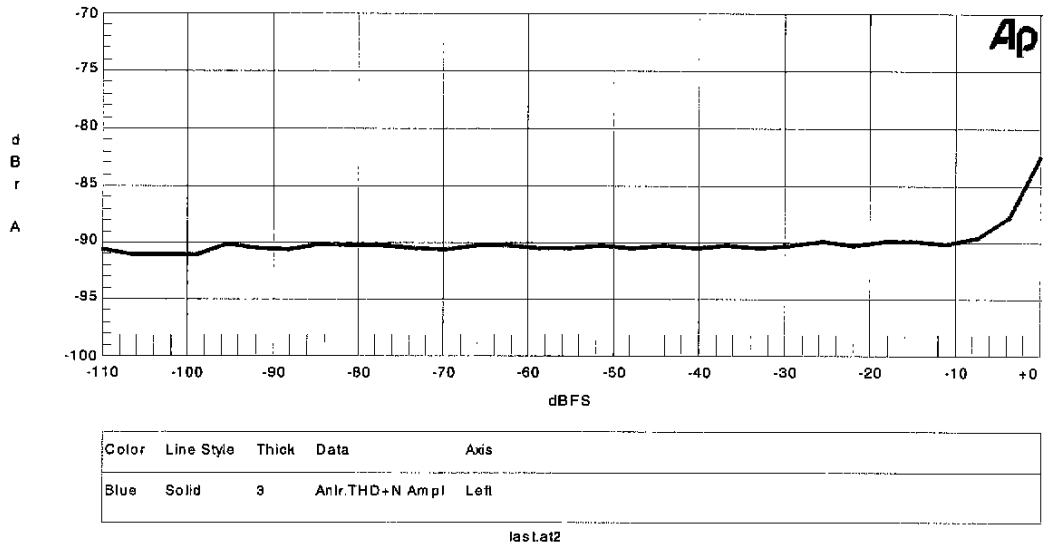

Fig1 : THD+N vs. Input level
① THD+N vs. Input Level (Fig1)